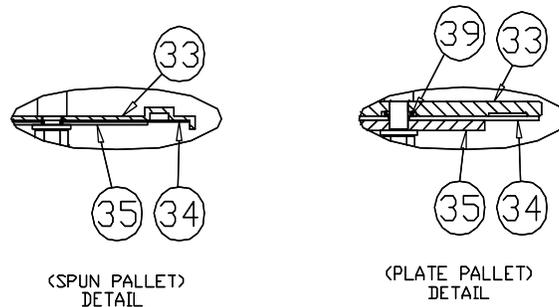

Figure 2 - Pallet Assembly Detail
4. Carefully inspect all guides for corrosion, damage or product build up. Also inspect the guide hole in the vacuum cover. Check the metal seating surfaces for pitting or build up. It is recommended to replace all soft goods including diaphragm, O-Ring (for machined pallets, Figure 2) and cover gasket.
# = See Figure 2 Item 39